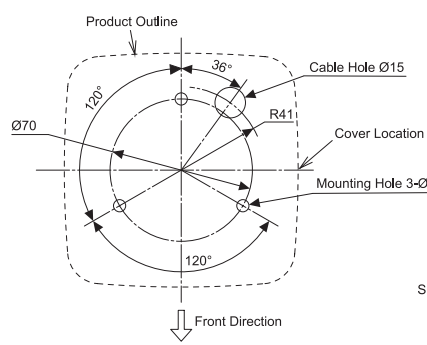

Figure 2: Installation Dimensional Drawing (Illustration depicts front direction)
- Refer to Figure 2 below for the mounting dimensions and drill mounting holes on a mounting surface.